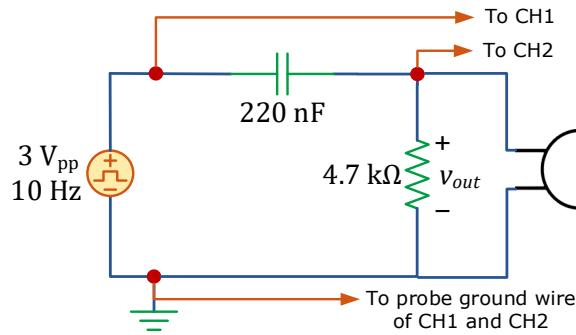

Figure 5.6. Timer circuit with buzzer.
- B.6** Decrease the frequency of the input signal to its original value (i.e., **10 Hz**) and add the buzzer to your circuit (as shown in Figure 5.6). Measure the time constant of your circuit using the corresponding channel of the oscilloscope. Justify any discrepancies between this value and the one you stated for the circuit without a buzzer in **A.1**. Based on this, explain whether disregarding the effect of the buzzer on the timer in the analytical part of the lab was a reasonable assumption. Once you finish, increase the frequency of the input signal progressively using the generator frequency range buttons (i.e., 100 Hz, 1 kHz, 10 kHz and 100 kHz) to see the effect of frequency on the buzzer. Write down and justify your observations.